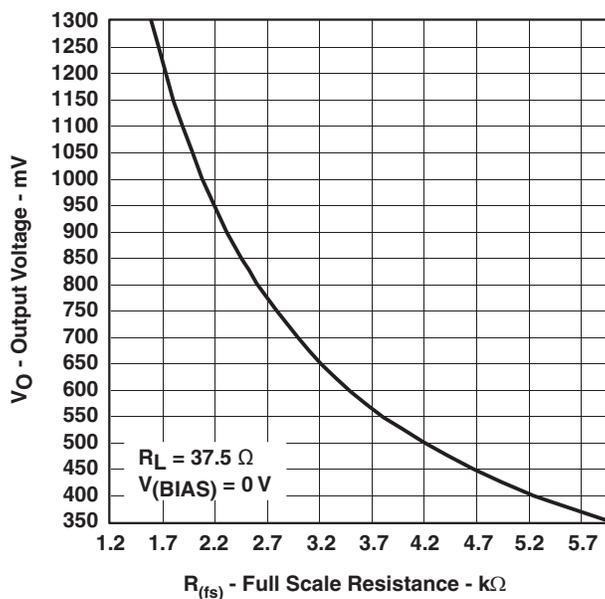

Figure 7-12. OUTPUT VOLTAGE vs FULL-SCALE RESISTANCE
- (2) The HS_IN, VS_IN, and FID input setup/hold times are valid for 3.3-V I/O operation only. These sync inputs are not recommended for use with 1.8-V I/O logic levels.
- (3) Defined as the delay on Y pixel data, starting from the rising edge of CLKIN, until the clock period.
- (4) CSC contribution: 8 pixels, CSM contribution: 1 pixel, 2x interpolation filter contribution: 18 pixels
- (5) PSRR is defined as 20*log (ripple voltage at DAC output/ripple voltage at AVDD input). Limits from characterization only.
- (6) Crosstalk spec applies to each possible pair of the 3 DAC outputs. Limit from characterization only.
- (7) The imbalance between DACs applies to all possible pairs of the three DACs.
- (8) Nominal values at R_{FS} = R_{FS(nom)}; see Figure 7-12 . Limit from characterization only. Excludes bias offset.